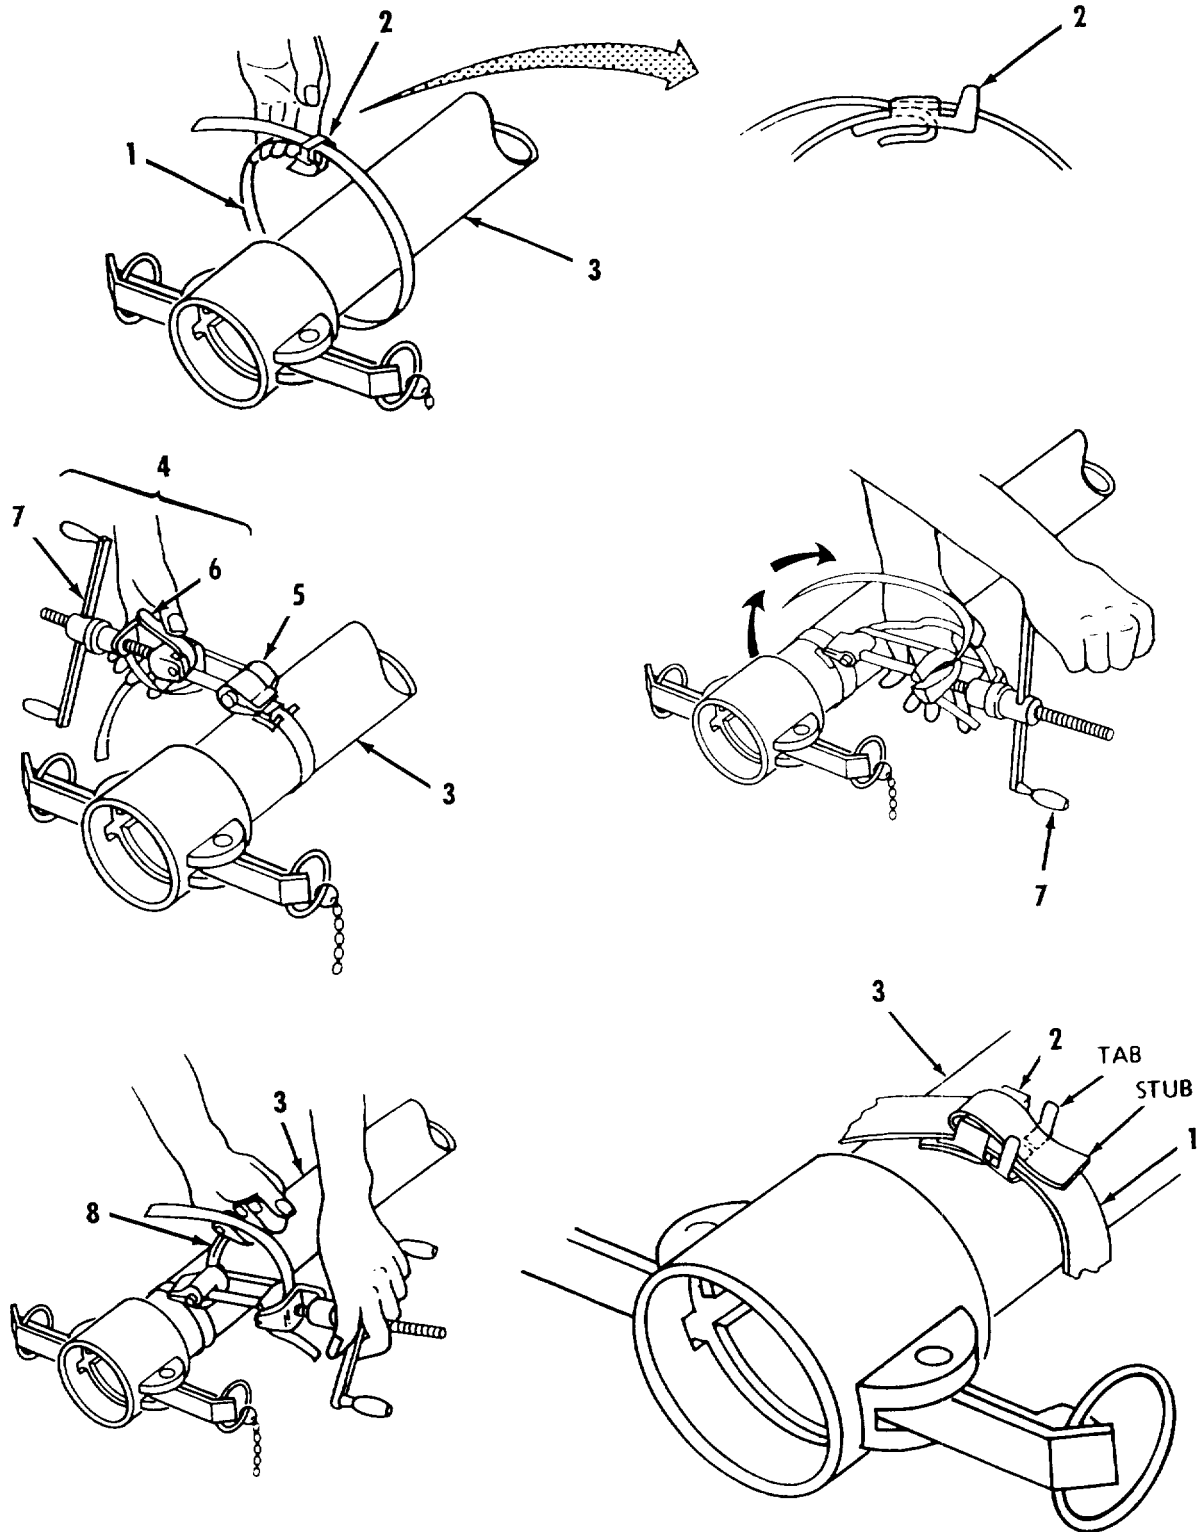

Figure 4-3. Strapping and Seal Installation.
- (2) Cut a piece of strapping (1, figure 4-3) 36 inches long.
- (3) Slide seal (2) onto strapping (1) as shown. Bend end of strapping under seal.
- (4) Wrap other end of strapping (1) around hose (3) and through seal (2). Position strapping on hose about 1 inch from end of coupling.
- (5) Wrap another loop of strapping (1) around hose (3) and through seal (2).
- (6) Position strapping (1) in slots of clamping tool (4). Tool nose (5) should fit snug against seal (2).
- (7) Apply pressure to gripper lever (6) and turn handle (7) until strapping (1) is snug. Tool will lock in place when correct tension is applied. Reposition tool as required.